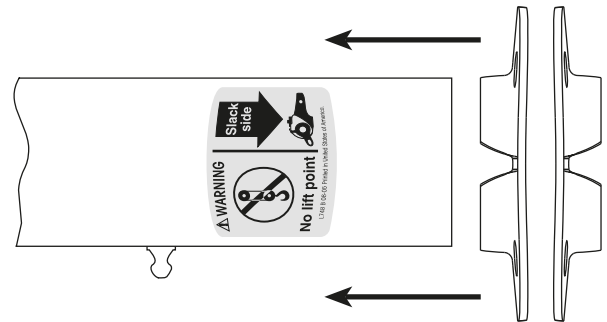

Figure 74: INTRAAX Install Brackets Back-To-Back
5. Arrange the two cam tube brackets back-to-back (Figure 74) and slide them onto the end of the cam tube assembly until they contact the suspension beam.